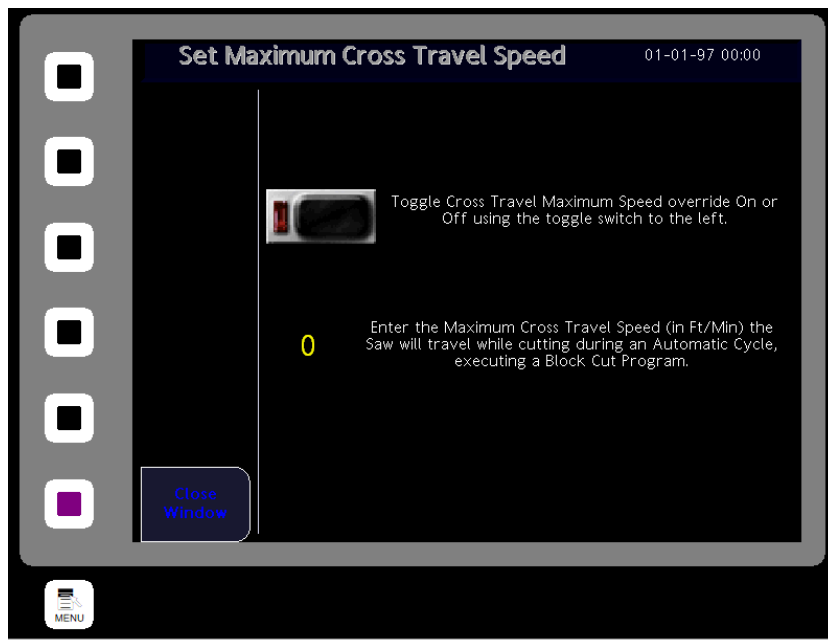

Figure 9.6: Cross Travel Speed Override Screen
**Cross Travel Speed Override** capability is intended to be used when the Operator desires to limit the cutting speed of the saw during automatic operation. It's primary function is to provide the ability to *run in* the newly installed segments of the saw blade. When selecting this navigation key it will open the ***Set Maximum Cross Travel Speed*** screen (Fig. 9.6).
**Enable/Disable Speed Override** referring to Figure 9.6 Speed Override is achieved by pressing the toggle button provided on the screen. The toggle has a corresponding state indicator to show whether it is enabled or disabled at the present time. The Operator can also set the speed limit of the override which is represented in feet per minute. Simply pressing the number displayed will open a setting keypad onscreen to use for entry.